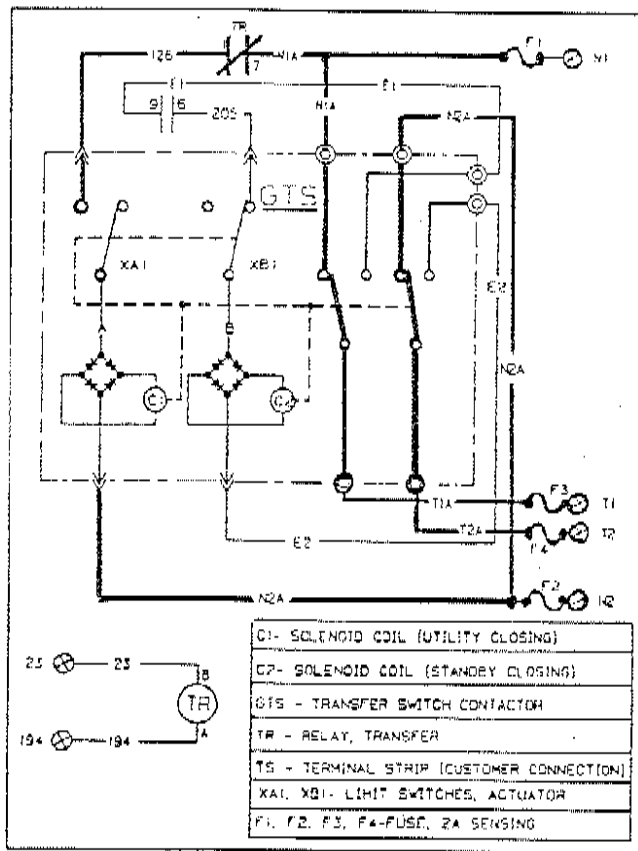

Figure 1. Circuit Condition- Utility Source Voltage Available
Figure 1 is a schematic representation of the transfer switch with utility source power available. The circuit condition may be briefly described as follows:
*NOTE: Transfer switch terminals N1 and N2 (Utility 1 and 2) must be properly connected to generator terminals N1 and N2 (Utility 1 and 2) by the installer. Generator terminals N1 (Utility 1) and N2 (Utility 2) are not shown in Figure 1. See Part 7, "DC Control-Units with Air-Cooled Engine" or Part 8, "DC Control-Liquid Cooled Engine Units".*